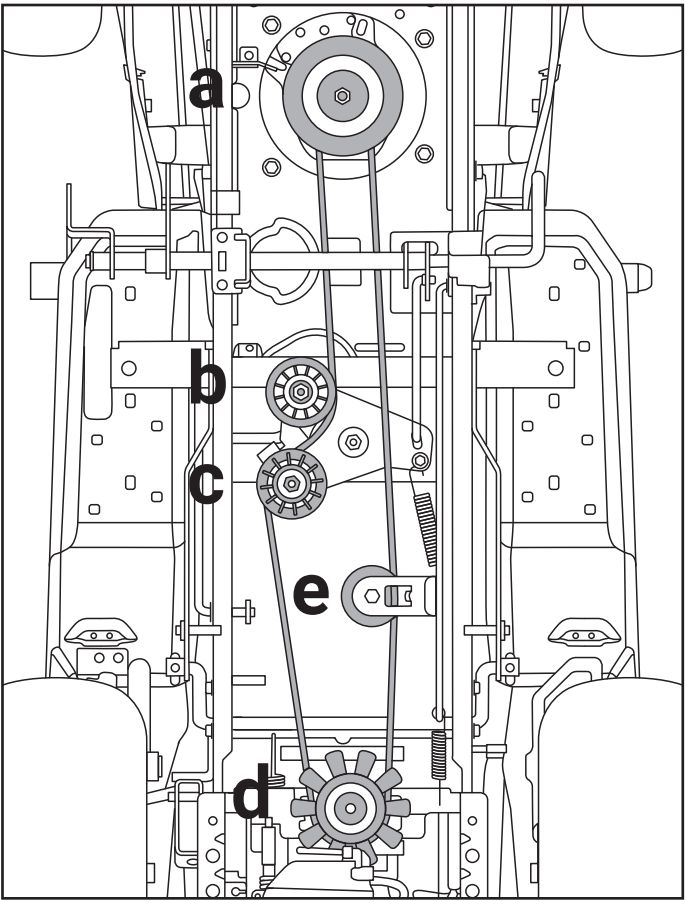

Fig. 31B
3. Remove the drive pulley assembly (a, Fig. 31B) by removing the bolt that fastens it to the engine output shaft.
4. Remove the two pulleys (b and c, Fig. 31B) by removing the nuts that fastens them to the mounting bracket.
5. Remove the pulley (e, Fig. 31B) by removing the bolt and nut that fastens it to the mounting bracket.
6. Slip the belt off the transmission pulley. (d, Fig. 31B)